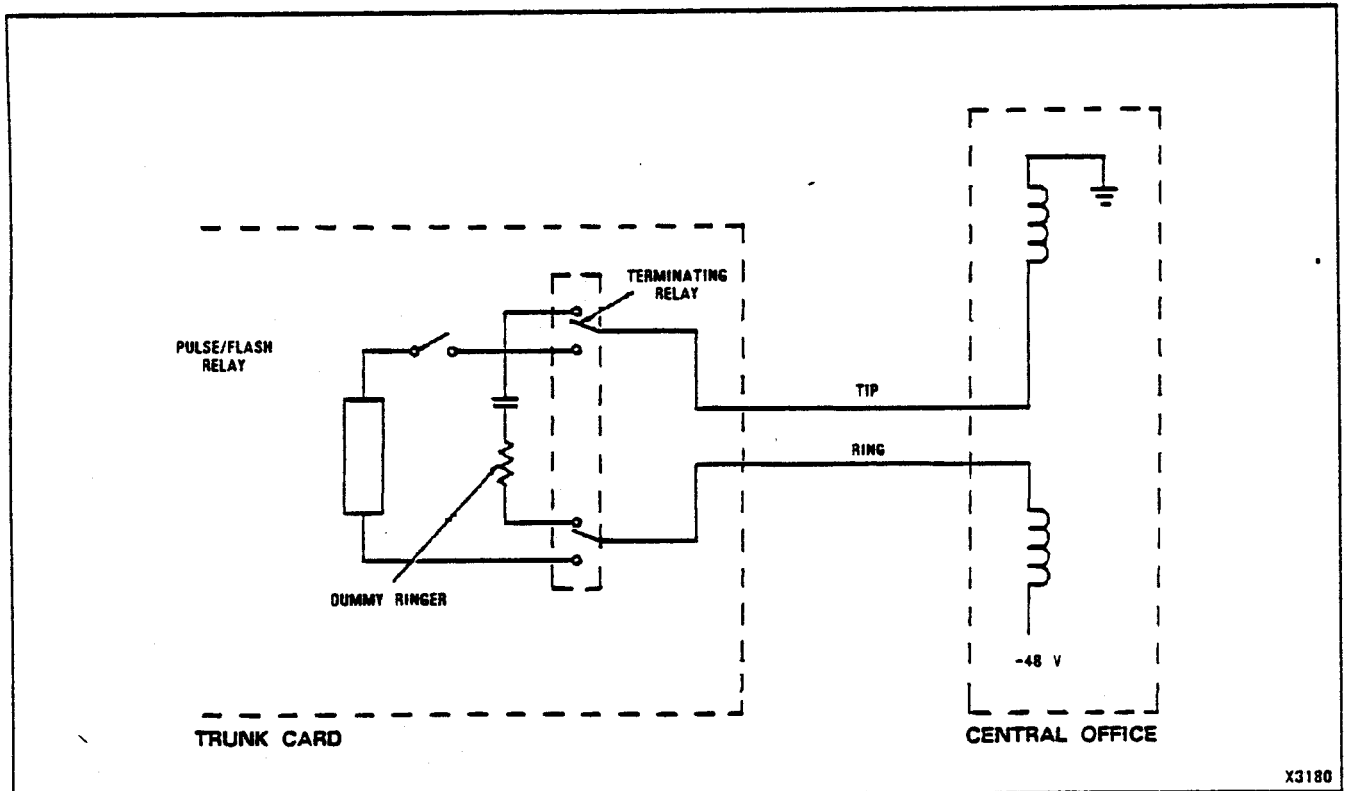

Fig. 9-7 Central Office Trunk Circuit - Loop Start
9.12 Loop Start (refer to Fig. 9-7): To seize a loop start trunk, the trunk circuit places a termination across TIP and RING. The CO senses the current flow through the loop and signals that the trunk is available by providing dial tone.